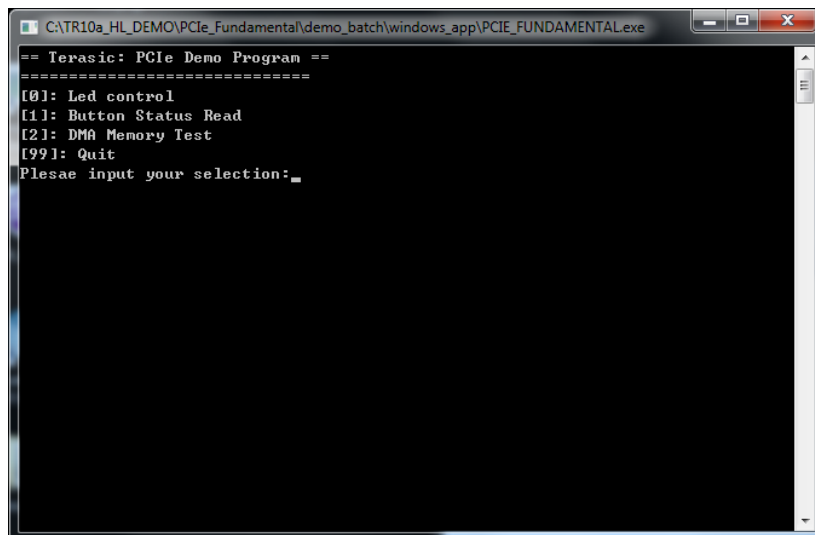

Figure 7-11 Screenshot of Program Menu
6. Goto windows_app folder, execute PCIE_FUNDMENTAL.exe. A menu will appear as shown in **Figure 7-11**.